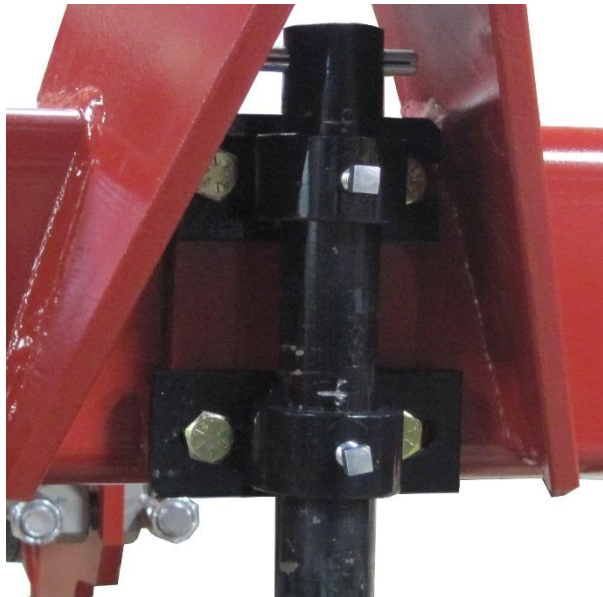

Figure 7: Assembled Coulter Shank
- b) Mount the parts that clamp the coulter shank to the frame. You will need the 2 coulter shank clamps, the 2 square head bolts, and the 4 bolts, washers, lock washers, and nuts. These parts should be assembled as shown in Figure 7.